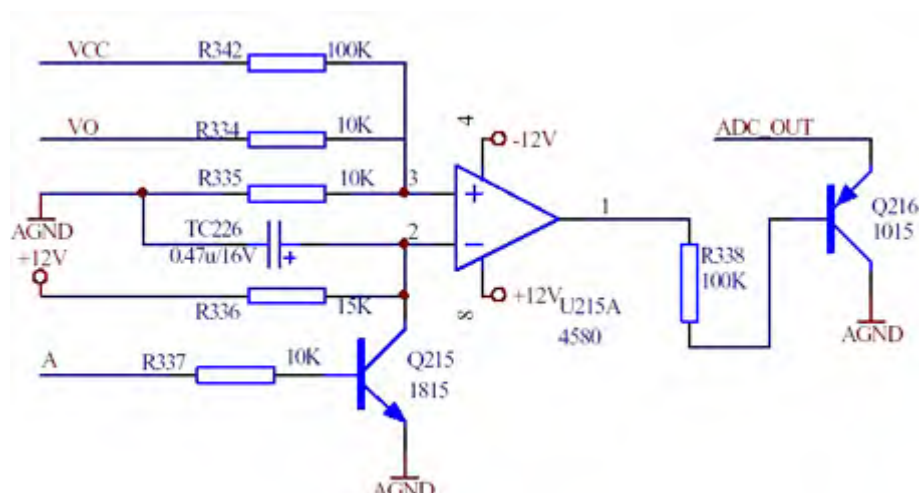

Figure 3.2.15.1 Spectrum signal switch control and matching circuit diagram
1. Spectrum signal switch control and matching circuit is shown as the following figure 3.2.15.1: